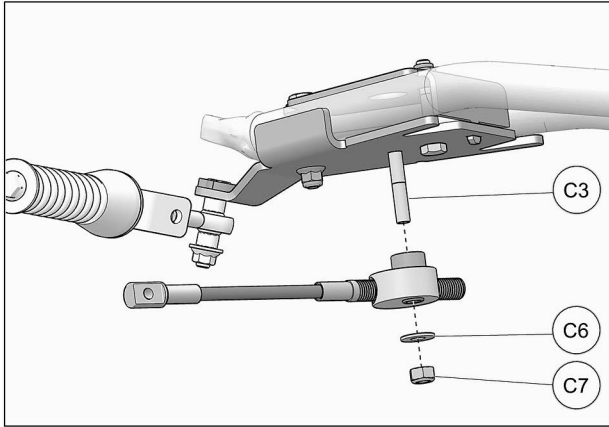

Fig. 29
18. Slip steering limiter cable assembly over bolt (C3) and use washer (C6) and nut (C7) to secure assembly to anchor bracket. Tighten nut to 50 Nm [37 lb•ft]. See Fig. 29